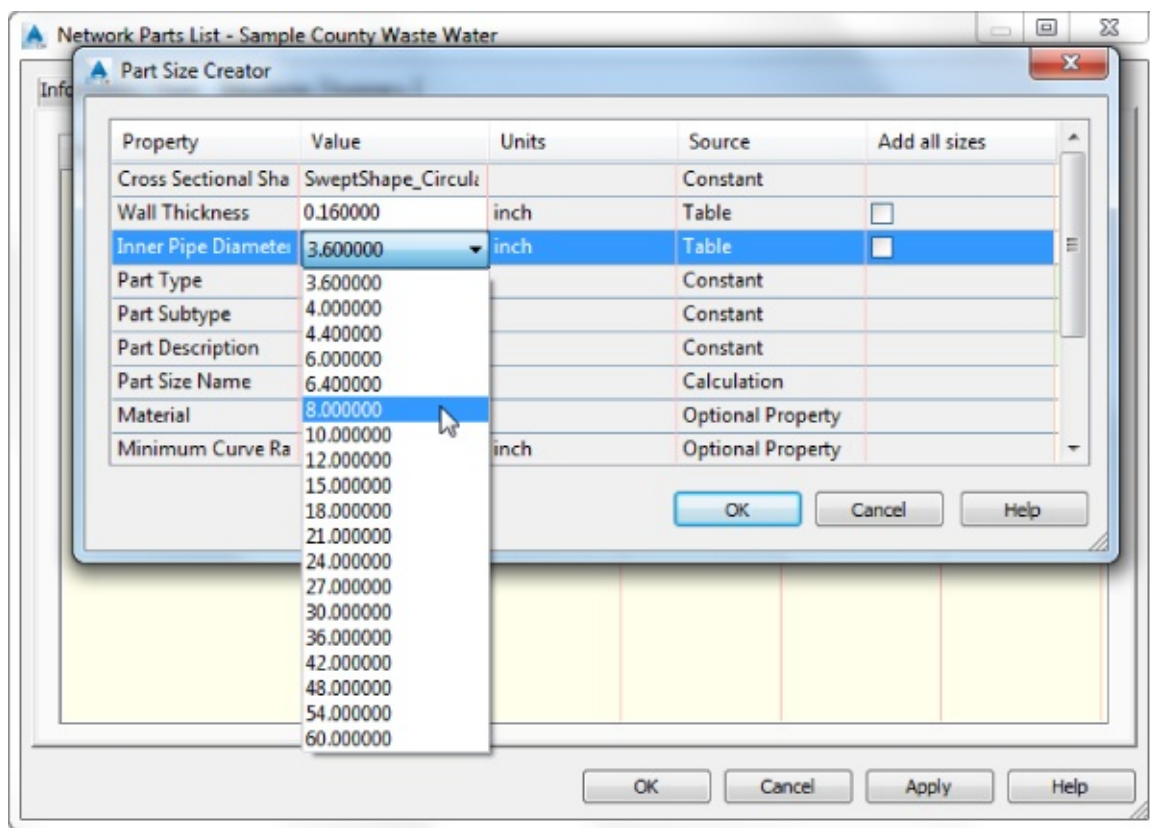

Figure 13.19 Set the diameter and material for all the needed pipes.
10. In the Part Size Creator dialog, click the drop-down in the Inner Pipe Diameter field, as highlighted in Figure 13.19.